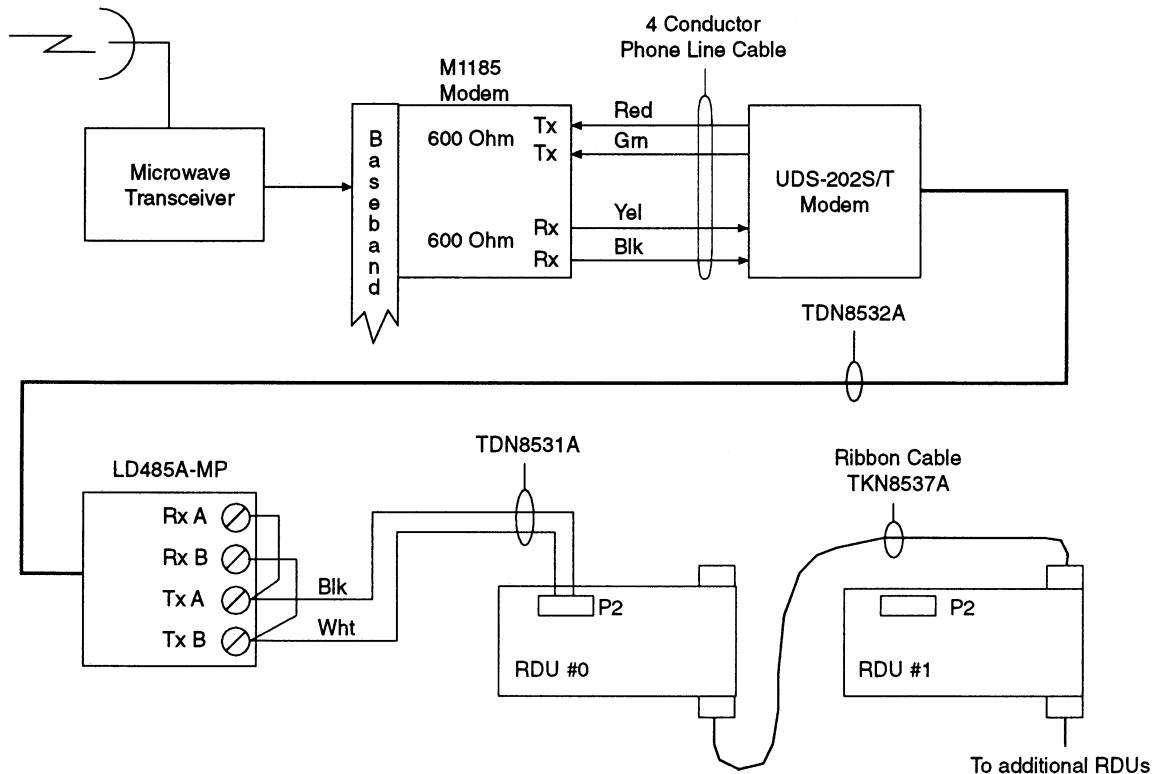

Figure 5. Dual Path Remote Site Cabling Detail
- Step 8. Connect one end to the 25-pin male connector on the line driver. Figure 5 illustrates these connections.
- Step 5. Connect the white wire from the RS-485 cable to the TX B and RX B terminals on the line driver. Figure 5 illustrates these connections.